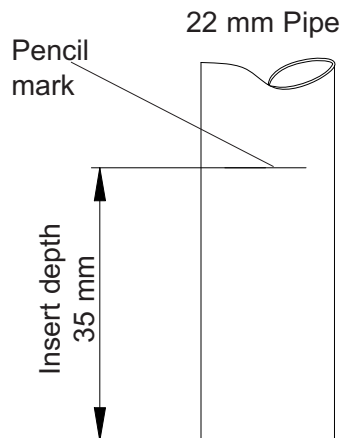

Fig. 9
Ensure the pipe is free from all score marks and deformities in the area of the insertion depth (Fig. 9) and cut the pipe square removing all burrs and sharp edges to prevent damage to the sealing 'O'-ring.
2. Prior to inserting pipe into fitting mark the insertion depth on the wall of the pipe with a soft pencil at a distance of 35 mm from the end to be inserted (Fig. 9).